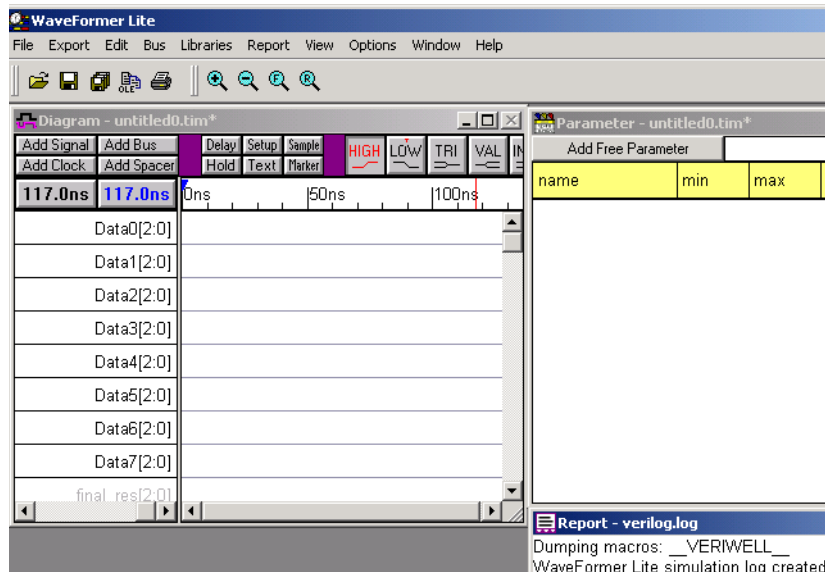

Figure 8-1. WaveFormer Lite
1. **Double-click *WaveFormer Lite Stimulus* in the Process window.** Waveformer Lite starts, as shown in Figure 8-1.